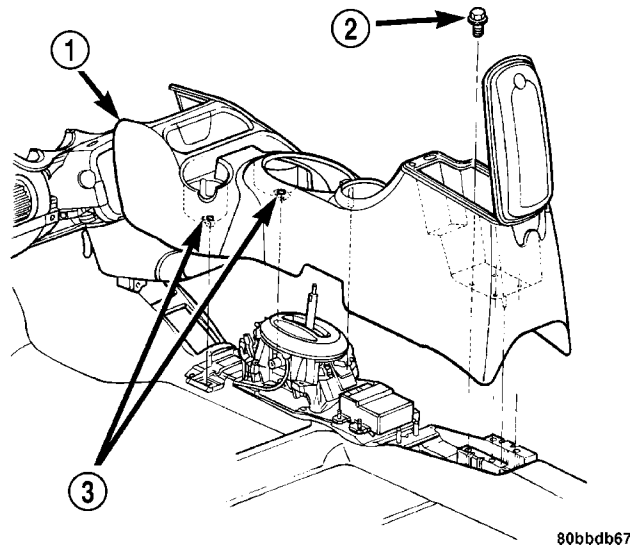

Fig. 260 Center Console Removal/Installation
(3) Remove the center console assembly as shown in (Fig. 260).